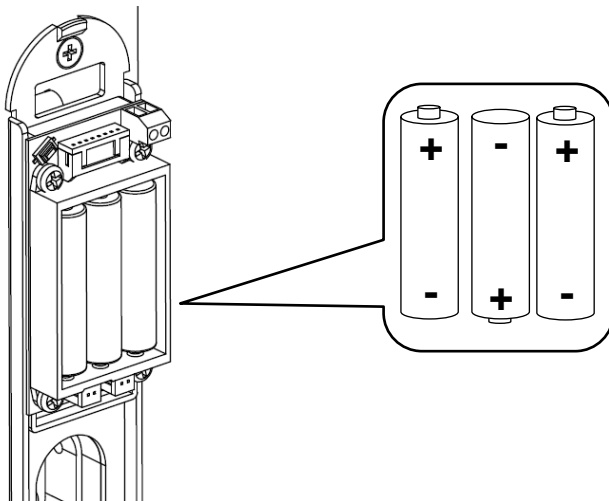

Fig. 13. Battery replacement
13. Place the batteries into the battery holder 18 following the polarity marked below in this document, see Fig 13.
Panel supervises the battery state. The siren sounds and LED blinks red on battery discharge. To replace batteries unscrew the screw fixing the escutcheon, take it off, remove used batteries and install new ones (see Fig. 13.).